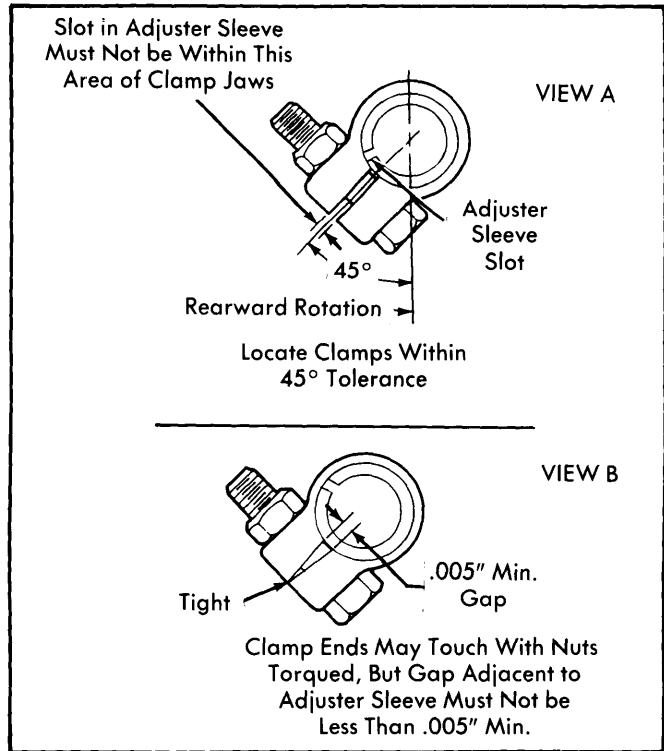

Fig. 6 Tie Rod Clamp Position "C", "K" and "P" Models
4) Before tightening tie rod adjusting sleeve clamp bolt, note the following: Clamps must be between locating dimples at either end of sleeve. Adjuster sleeve slot must not be within open area of clamp jaw opening. See *Fig. 6 and 7*.